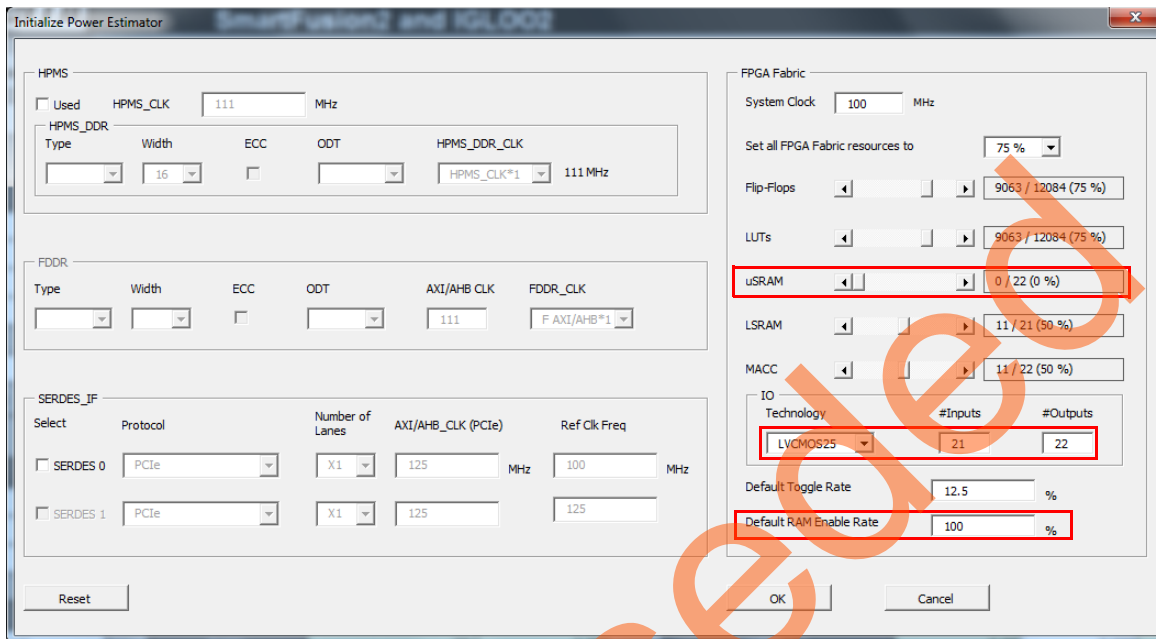

Figure A-3 • Initialize Power Estimator Wizard
5. Click **Initialize Power Estimator** (see Figure A-2) and invoke the Initialize power estimator wizard. **Initialize Power Estimator** dialog box opens (see Figure A-3).